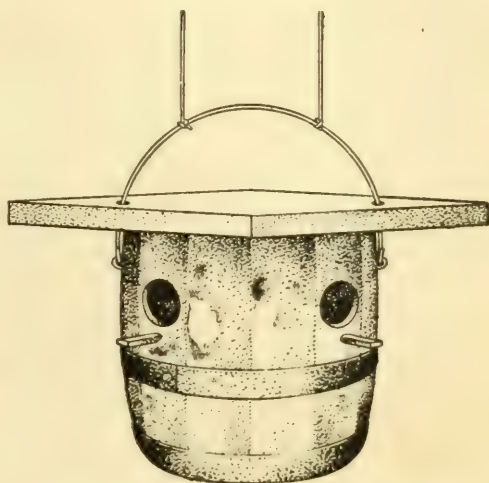

FIG. 492. — A Hanging House.
**The Hanging House** shown in Fig. 492 may be made from a 25-pound or a  $12\frac{1}{2}$ -pound white lead keg, which can be procured from any painter. Cut the square roof board wide enough to project 3 or 4 inches over the sides of the keg, and bore two holes in the proper positions for